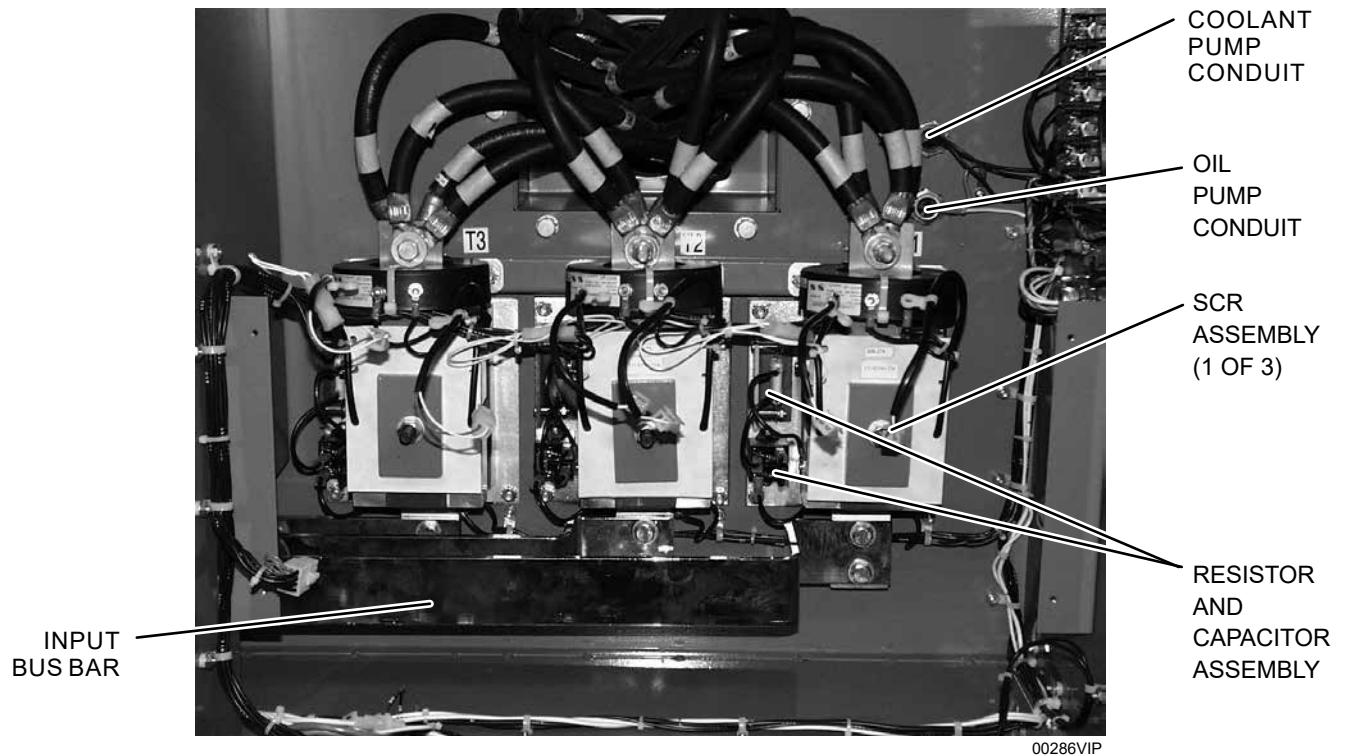

FIGURE 9 - LCSSS – POWER COMPONENTS
11. Remove resistor and capacitor assembly from defective SCR assembly. Save these parts; they will be needed for the new SCR assembly. (Refer to *Figure 9 on page 39*)